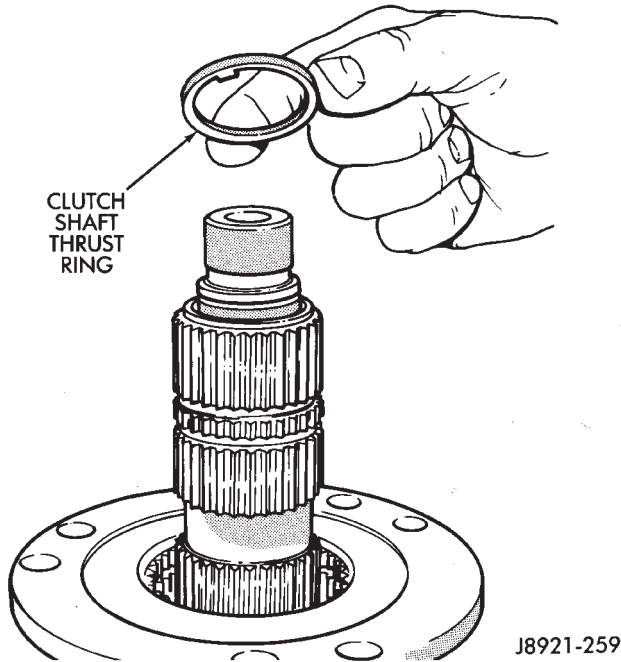

Fig. 19 Clutch Shaft Thrust Ring Removal
(30) Remove clutch shaft thrust ring (Fig. 19).